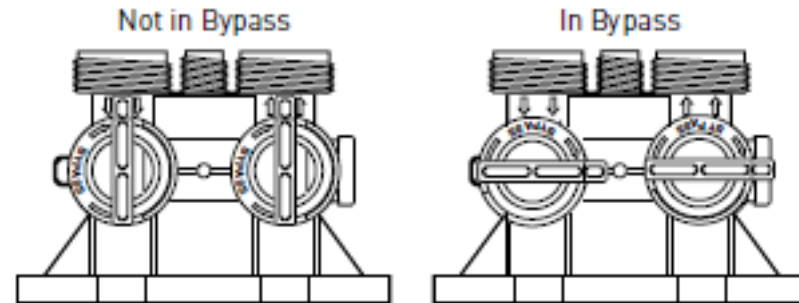
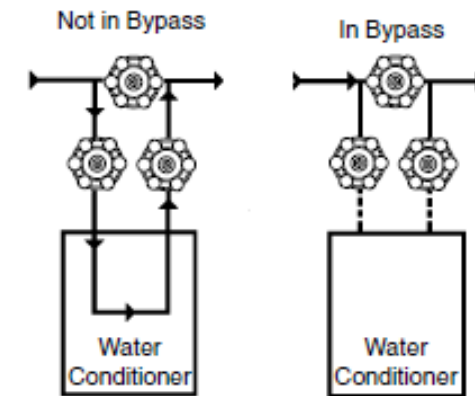

Figure 4 Autotrol Series 256 Bypass Valve
Figure 5 Typical Globe Valve Bypass System
- The most common bypass systems are the Autotrol® Series 256 bypass valve (Figure 4) and plumbed-in globe valves (Figure 5). Though both are similar in function, the 256